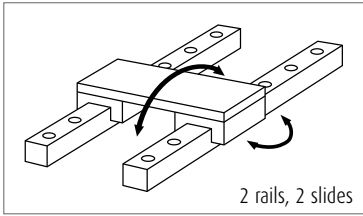
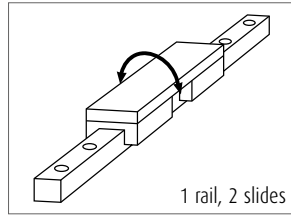
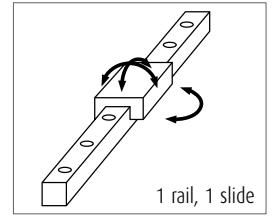

Fig. 3.6 Pitching and yawing direction
Fig. 3.7 Rolling direction
Fig. 3.8 All directions
- ▶ However, in cases as shown in **Fig. 3.6**, **Fig. 3.7** and **Fig. 3.8**, it is necessary to take into account the moment rigidity in addition to the radial rigidity.